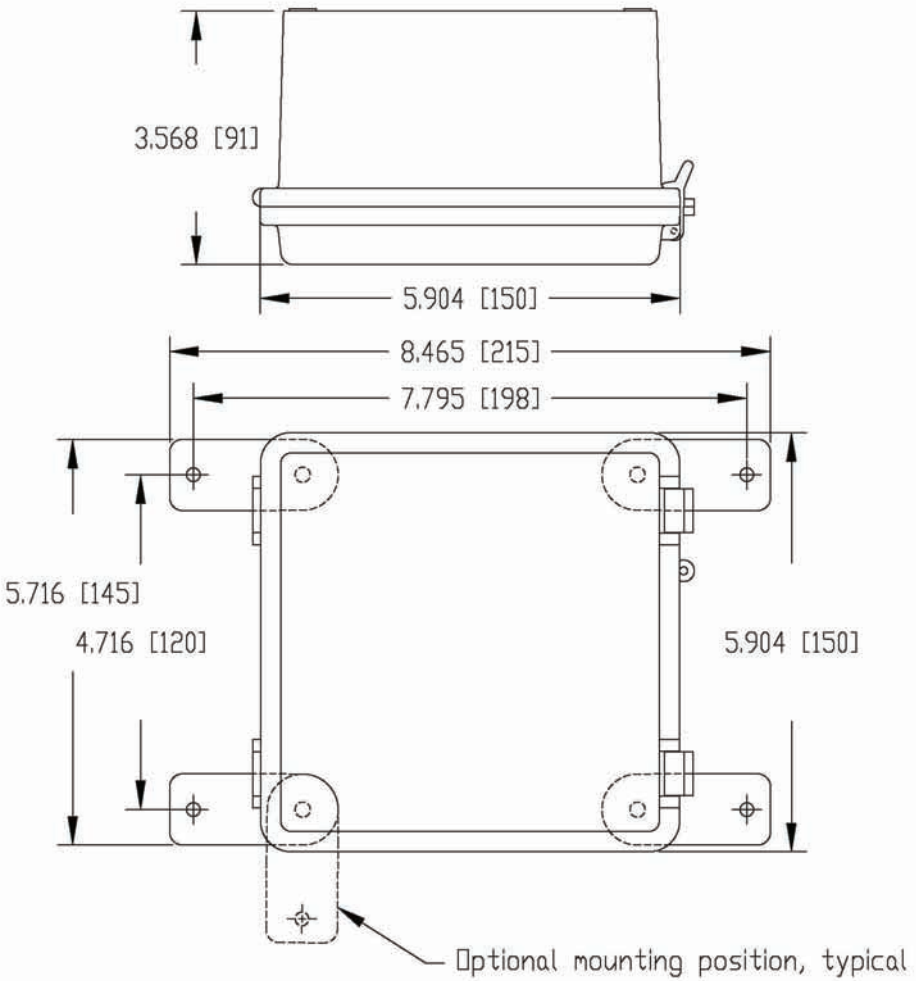

Figure 2: Plastic enclosure dimensions
2. Plastic NEMA 4X enclosures, manufactured by Bud Industries, Inc, shown in Figure 2. Further specifications are available from Bud's website (www.budind.com), part number NBB-15240 with clear cover.